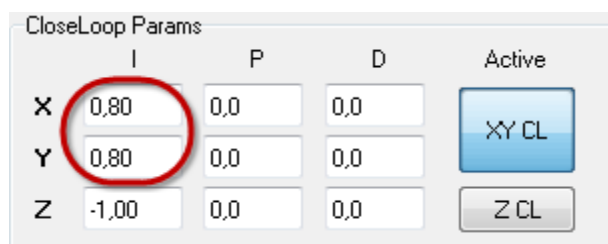

Fig. 1-5
6. Correct values of **Band X** and **Band Y**, if necessary, and then check the instrument for generation. If generation occurs, decrease the integral loop gains **X** and **Y** (Fig. 1-5).